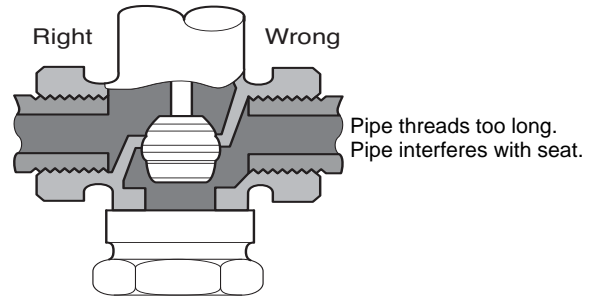
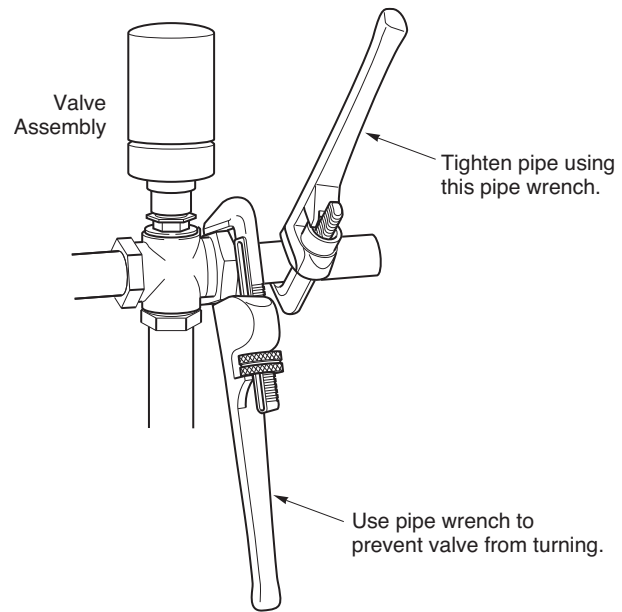

Figure-4 Normal Thread Engagement.
Figure-5 Installation of Screwed End Valves.
2. Use a pipe wrench to fully tighten the valve to the pipe. Do not over tighten or strip threads. See Table-6 and Figure-4 for the normal engagement length of the threads. Figure-5 shows a means of tightening the pipe so that the valve is not twisted or crushed.